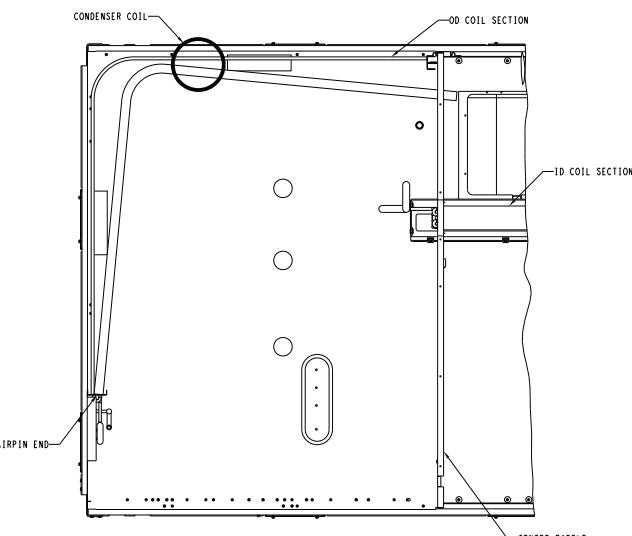

Fig. 20 – Separating Coil Sections (Top View)
8. Insert a spacer (field-supplied) between the tube sheets to hold the coils apart. (See Fig. 20.)